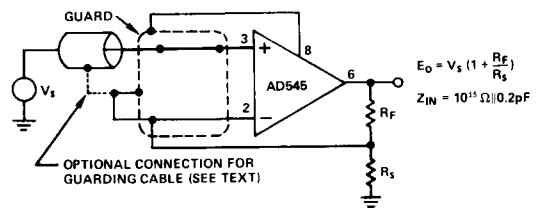
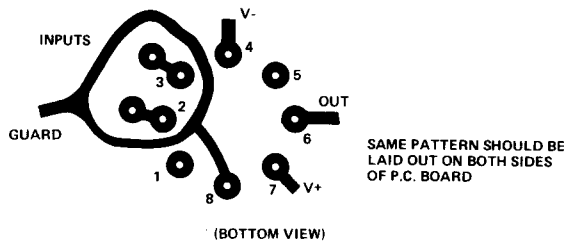

Figure 2. Very High Impedance Non-Inverting Amplifier
Figure 10. Board Layout for Guarding Inputs with Guarded TO-99 Package
2. The use of guarding techniques is essential to realizing the capability of the low input bias currents of the AD545. Guarding is achieved by applying a low impedance bootstrap potential to the outside of the insulation material surrounding the high impedance signal line. This bootstrap potential is held at the same level as that of the high impedance line; therefore, there is no voltage drop across the insulation, and hence, no leakage. The guard will also act as a shield to reduce noise pickup and serves the additional function of reducing the effective capacitance to the input line. The case of the AD545 is brought out separately to pin 8 so that it can also be connected to the guard potential. This technique virtually eliminates potential leakage paths across the package insulation, provides a noise shield for the sensitive circuitry, and reduces common-mode input capacitance to about 0.2pF. Figure 10 shows a proper printed circuit board layout for input guarding and connecting the case guard. Figures 2 and 3 show guarding connections for typical inverting and non-inverting applications. If pin 8 is not used for guarding, it should be connected to ground or one of the amplifier's power supplies to reduce noise.
3. Printed circuit board layout and construction is critical in achieving low leakage performance. The best performance will be realized by using a teflon IC socket for the AD545 but at least a teflon stand-off should be used for the high-impedance lead. If this is not feasible, the input guarding scheme shown in Figure 10 will minimize leakage as much as possible and should be applied to both sides of the board. The guard ring is connected to a low impedance potential at